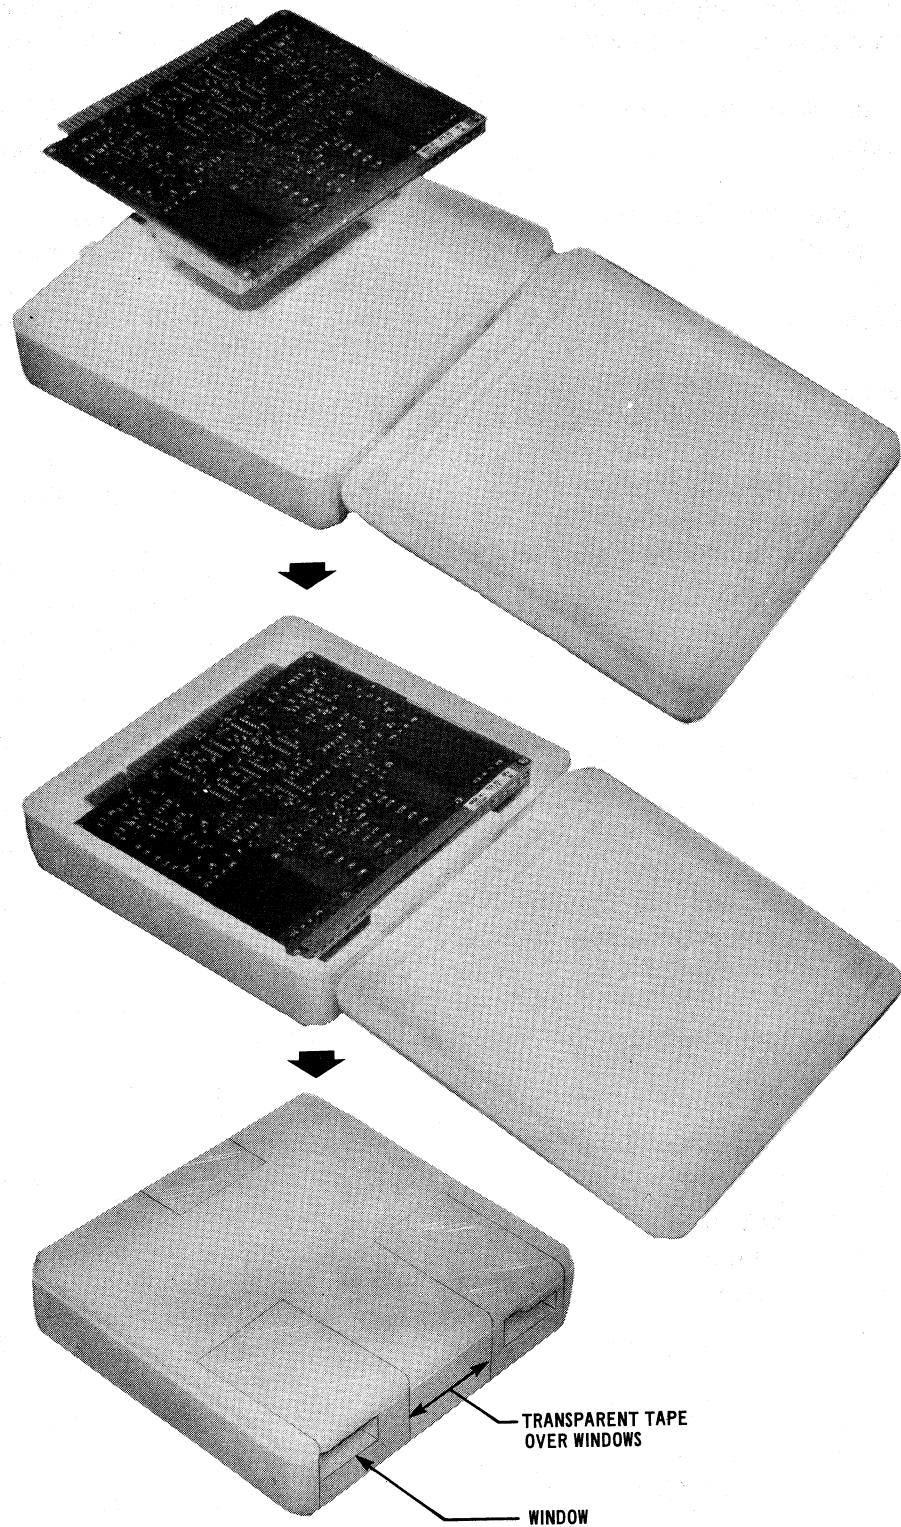

Fig. 4 – Placing and Removing a Circuit Pack from a Shipping Container (Foam Insert)
4.06 Each circuit pack is shipped in a foam insert. The insert is sealed by transparent tape shown in Fig. 4. Windows through the front edge of the insert expose the circuit-pack code for identification.